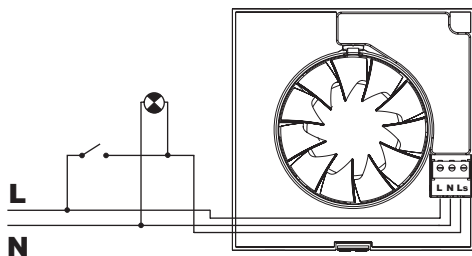

Fig.8
**Case 2:** Automatic operation as in case 1 with the facility to override the hygrostat by means of the light switch (fig.8), when the humidity level in the room is lower than the selected level. In this case, the extractor continues to operate for the selected period set on the timer after the switch light has been switched off.